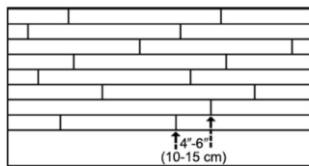

Figure 3
- Tramex Concrete Moisture Encounter Meter (Figure 3): Moisture readings should not exceed 4.5 on the upper scale. (Figure 3 shows an unacceptable reading of over 4.5.) Concrete Moisture Meters give qualitative reading results-not quantitative ones. These results are a quick way to determine if further testing is required.